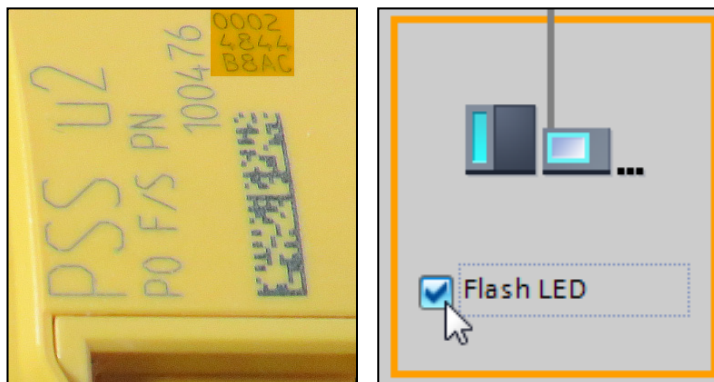

Figure 49: TIA – Assign device name » MAC / Function "Flash LED" (Part 2, Identification)
- ▶ The PSS u2 system, that is to be named, can be uniquely identified by MAC address and IP address. The "Devices MAC address" is lasered on the front of the head module above the DIP switches to the right of the serial number (see left picture in Figure 49).